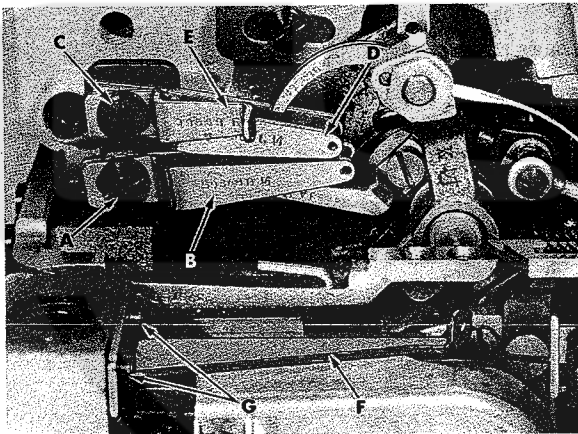

Fig. 22
The auxiliary upper looper thread guide (E, Fig. 22) should be centered in its adjusting slot and set slightly above a horizontal position.
Loosen screw (A, Fig. 22). Center lower looper thread eyelet (B) in its adjusting slot and set eyelet in a horizontal position. Hold eyelet (B) in position and tighten screw (A).